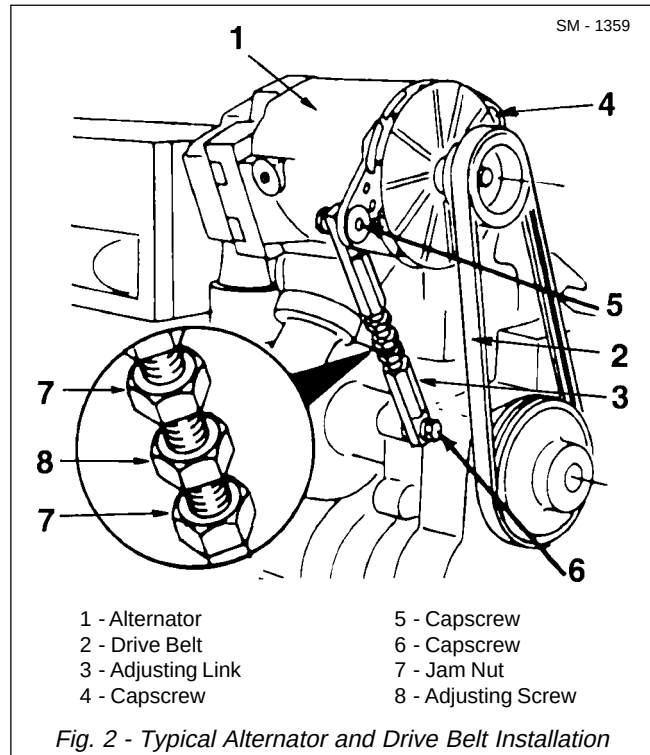

Fig. 2 - Typical Alternator and Drive Belt Installation
**Cooling Fan (40)** - Visually check fan (40) for cracks, loose rivets, and bent or loose blades. Check fan mounting bolts (22) and tighten if required. Replace fan (40) if damaged.
**Alternator Drive Belt (2, Fig. 2)** - Visually check belt (2, Fig. 2) and replace if it is cracked or frayed. Adjust belt if it has a glazed or shiny surface which indicates belt slippage. A correctly installed and tensioned belt will show even pulley and belt wear. Check belt tension and adjust if necessary, as described under 'Alternator Drive Belt'.
Numbers in parentheses refer to Fig. 2.
Refer to Fig. 2.